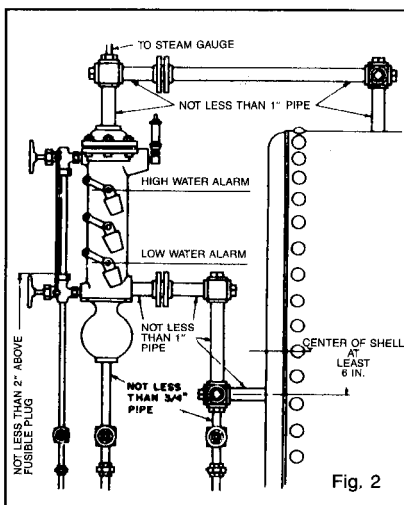

Fig. 2
**HORIZONTAL RETURN TUBULAR BOILER:** Fig. 2 illustrates typical piping of water column to a horizontal return tubular boiler. The steam connection to the column should be taken from the top of the shell or the upper part of the